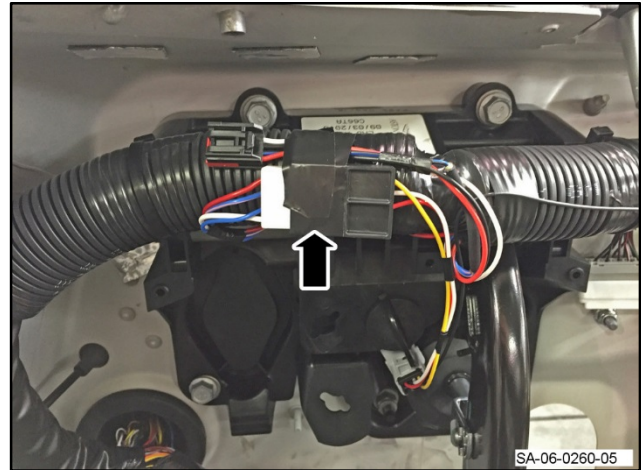

Figure 5
10. Use insulating tape to attach the disconnected brake pedal sensor assembly electrical connector to the cabin harness (refer to Figure 5).